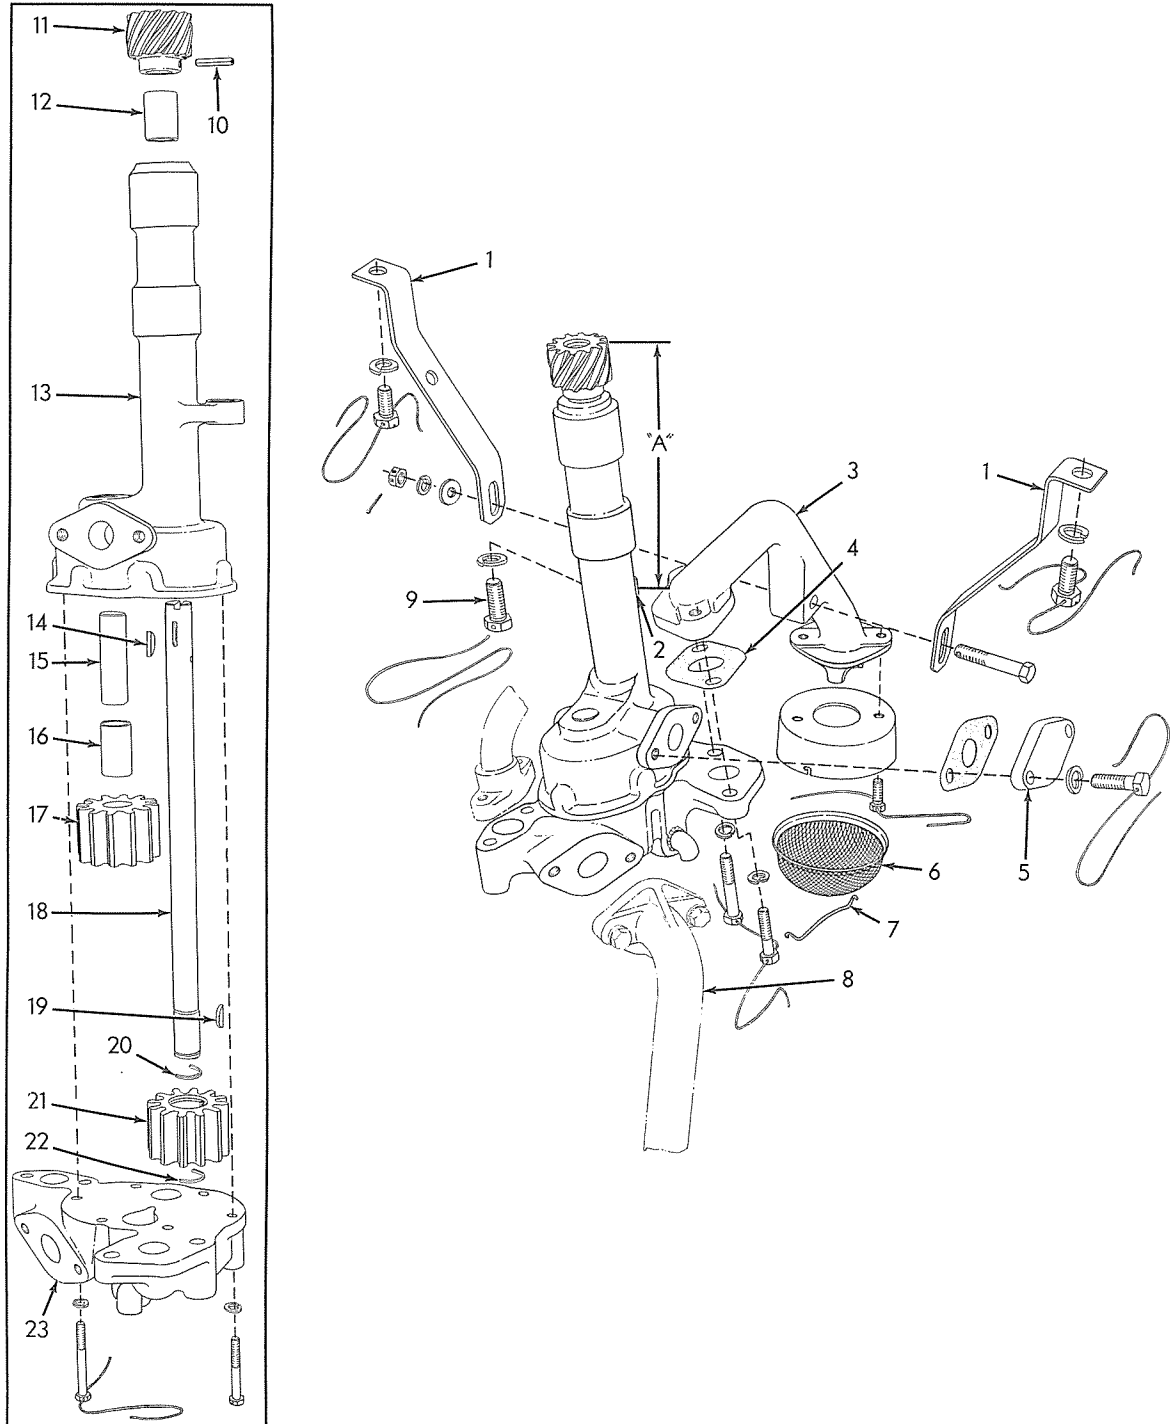
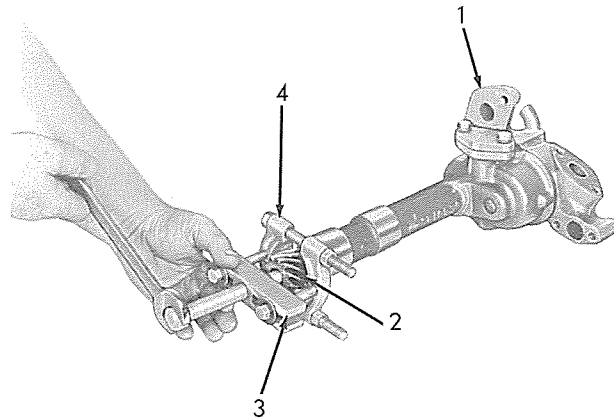

Fig. 8 — Scavenging Oil Pump Details
Fig. 9 — Removing Scavenging Pump Driving Gear (T-20233)
Legend For Fig. 8
- c. Remove capscrews attaching suction pipe Fig. 8 (4) to scavenging pump.
- d. Remove capscrew, washers, and nut securing suction pipe Fig. 8 (3) to supporting brackets (1).
- e. Remove locking wire, capscrew, and lockwasher securing scavenging oil pump to cylinder block. Remove scavenging oil pump and the two suction pipes (3) (8) as a unit.
- a. Remove capscrews and lockwashers securing the two suction pipes Fig. 8 (8) (3) to scavenging oil pump and remove both pipes.
- b. Remove roll pin securing pump driving gear to the drive shaft. Using a gear puller similar to one shown in Fig. 9, remove gear (2) from drive shaft. Remove key Fig. 8 (14) from shaft (18).
- c. Remove capscrews and lockwashers securing pump body cover, Fig. 8 (23), to body assembly (13) and remove cover (23).
- d. Remove pumping gear (21) and drive shaft (18) from body (13). Remove snap ring (22) from shaft (18) and pull gear (21) from shaft (18) using a puller similar to one shown in Fig. 9.
- a. Install snap ring Fig. 8 (20) and key (19) in position on the shaft (18). Using a press, install gear (21) on shaft (18) against snap ring (20). Install snap ring (22).
- b. Insert drive shaft assembly into body assembly. Install key (14).
- c. Using a press, install gear (11) on shaft (18) lining up the holes for roll pin (10). Install roll pin.
If a new drive shaft is being used press gear (11) onto shaft (18) so that upper face of gear (11) is 7-31/32" from upper face of pump body mounting boss, Fig. 8 "A". Drill a .187"-.192" hole through the shaft (18) then install roll pin (10).
- d. Install gear assembly (17) on stub shaft (15).
- e. Install cover (23) in position on body and secure with capscrews and lockwashers.
- f. Using new gaskets install suction pipes (8) (3).